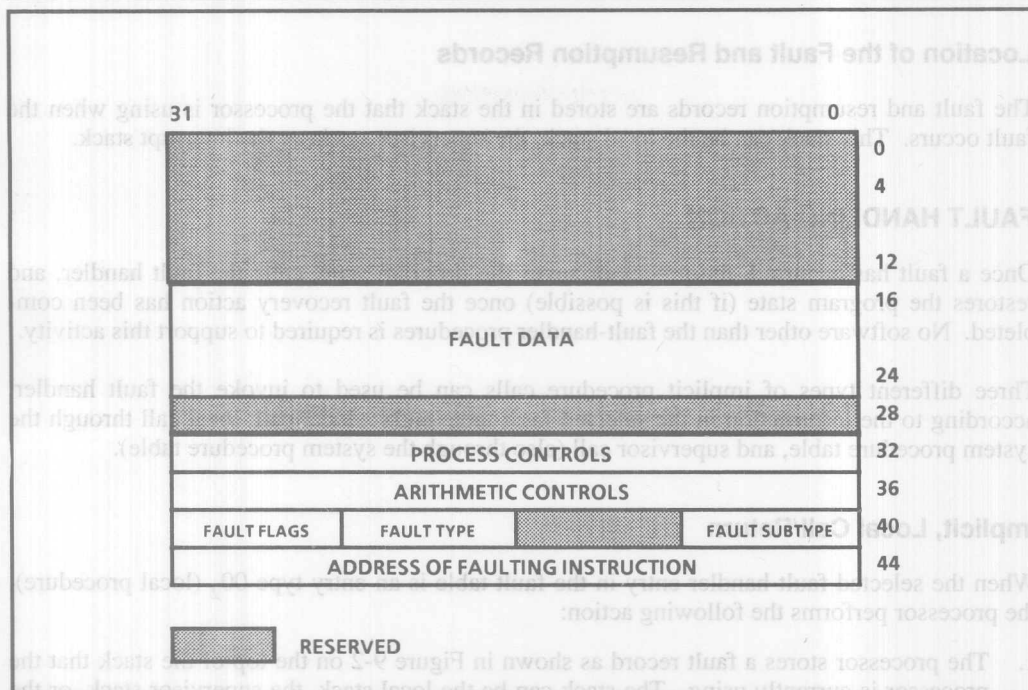

Figure 9-2: Fault Record
When a fault occurs, the processor records information about the fault in a fault record. The fault handler and processor use this information to recover from or correct the fault condition and resume execution of the process. Figure 9-2 shows the structure of the fault record. The use of the fields in this record are described in the following paragraphs.
1. The processor stores a fault record as shown in Figure 9-2 on the top of the stack that the processor is currently using. The stack can be the local stack, the supervisor stack, or the interrupt stack.